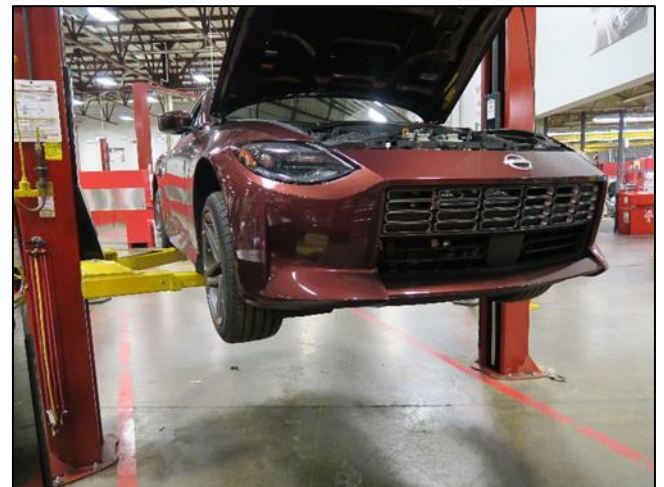

Figure 12
10. Lower the vehicle about halfway, to allow access to the wheel well. (Figure 12)